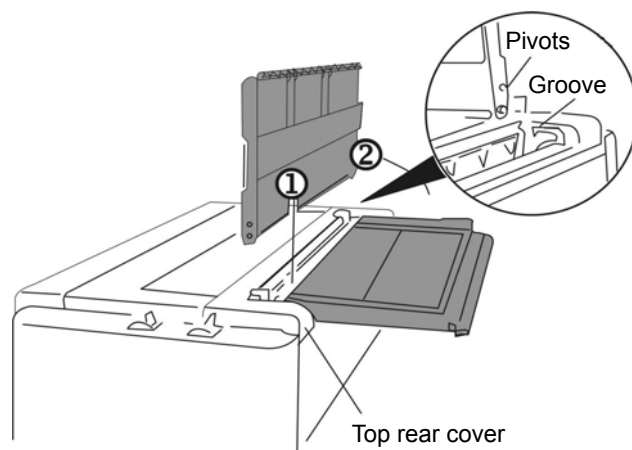

Figure 2-4 Installing the Paper rack
2. Install the pivots on both sides of paper rack vertically into the groove of top rear cover. (As shown in Figure 2-4)